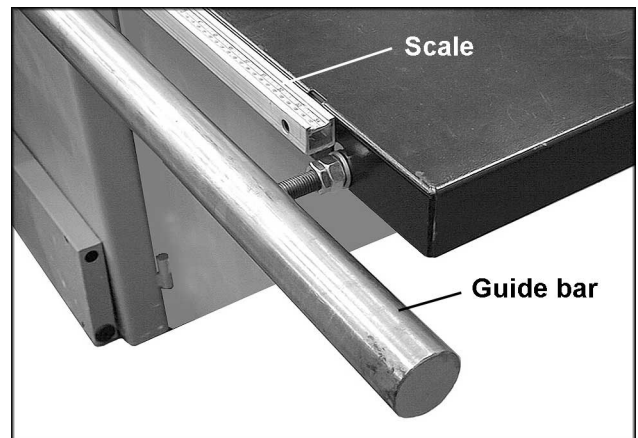

FIGURE 17
1. Mount the scale (Fig. 17) to the edge of the cast iron table with six M6 x 16 socket head cap screws and six square nuts.